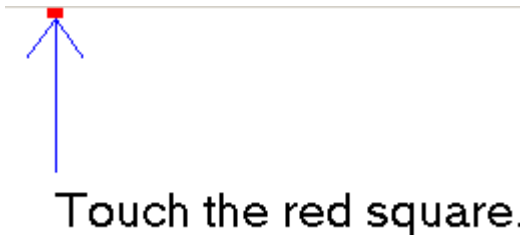

Figure 5-11: Calibration Screen
Step 10: The calibration screen in is shown. See **Figure 5-11**.